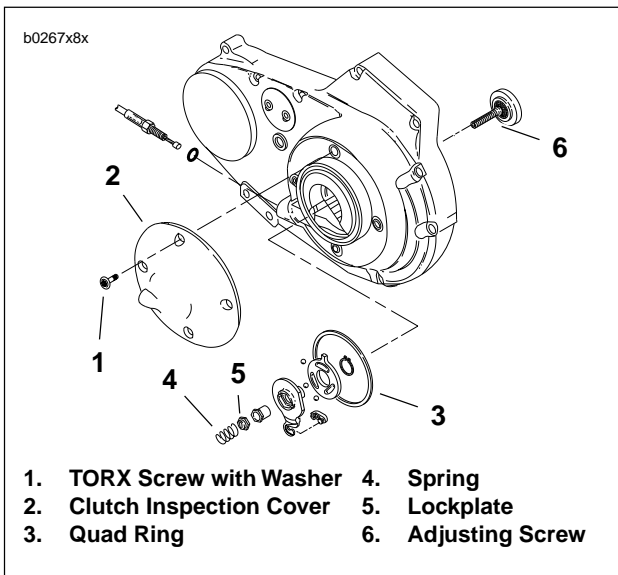

Figure 1-20. Clutch Release Mechanism
3. See Figure 1-20. Remove four TORX screws with washers (1) from clutch inspection cover (2). Remove clutch inspection cover from primary cover. Do not damage or dislodge Quad ring (3) from primary cover.
Quad ring is shown removed from primary cover for illustrative purposes only in Figure 1-20.
8. See Figure 1-20. Install clutch inspection cover (2) using four TORX screws with washers (1). Tighten in a cross-wise pattern to 7-9 ft-lbs (10-12 Nm).